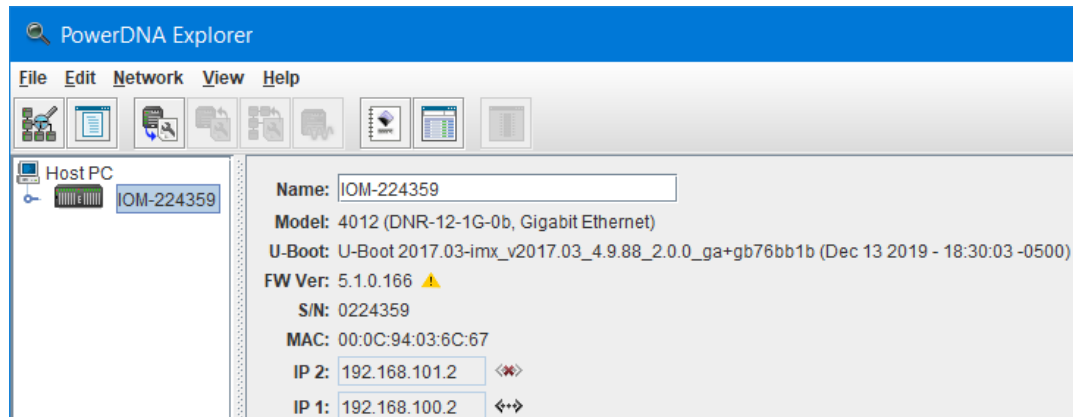

Figure 4-12 Displaying the Version of Your Firmware
STEP 6: Note the version that is given in the **FW Ver** field (Figure 4-12).